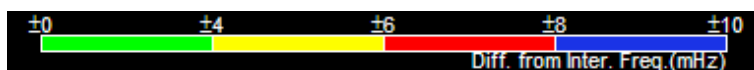

Figure 28: Local Frequency Coherence Comparison Legend
The color legend represents the four (4) levels of deviation from the Interconnection frequency (Figure 28).